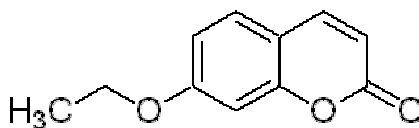
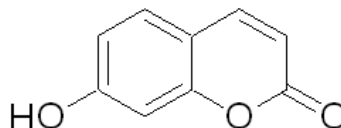
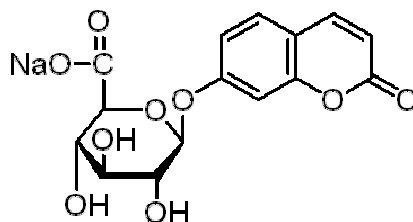

Figure 1A Structure of 7-ethoxycoumarin (7-EC).
Figure 1B Structure of 7-hydroxycoumarin (7-HC).
Figure 1C Structure of 7-hydroxycoumarin glucuronide (7-HC glu).
7-ethoxycoumarin (Figure 1A) is commonly used for metabolism studies, including hepatocyte studies (1), liver perfusion techniques (2) and cytochrome P450 studies (3). This application note describes an MSn data acquisition method using Varian's TurboDDS for the analysis of 7-ethoxycoumarin and two of its metabolites, 7-hydroxycoumarin (Figure 1B) and 7-hydroxycoumarin β-D-glucuronide (Figure 1C).